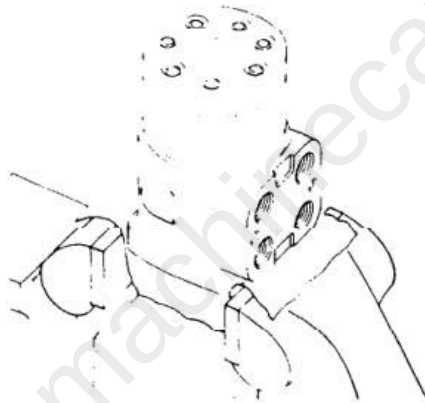

Fig. 4
1. Clamp the flange lightly in a vise, with the rotor up. At this time, clamp over copper plate or the like, and take care not to clamp too strongly. (Fig. 4)
2. Unscrew bolts ① with a 5/16"-12 point socket wrench.